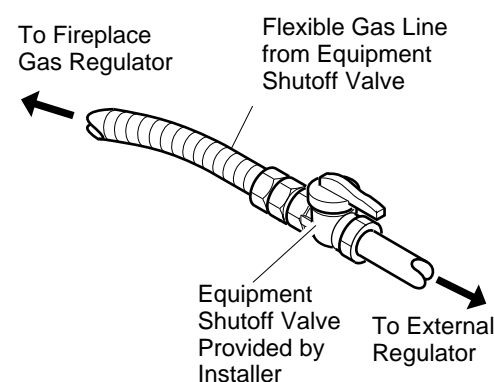

Figure 21 - Attaching Flexible Gas Lines Together
NOTICE: Most building codes do not permit concealed gas connections. A flexible gas line is provided to allow accessibility from the fireplace (see Figure 21). The flexible gas supply line connection to the equipment shutoff valve should be accessible.
4. Attach gas line from gas supply (see Figure 21). Check gas connection of flexible gas line attached to gas regulator of fireplace (see Figure 21).